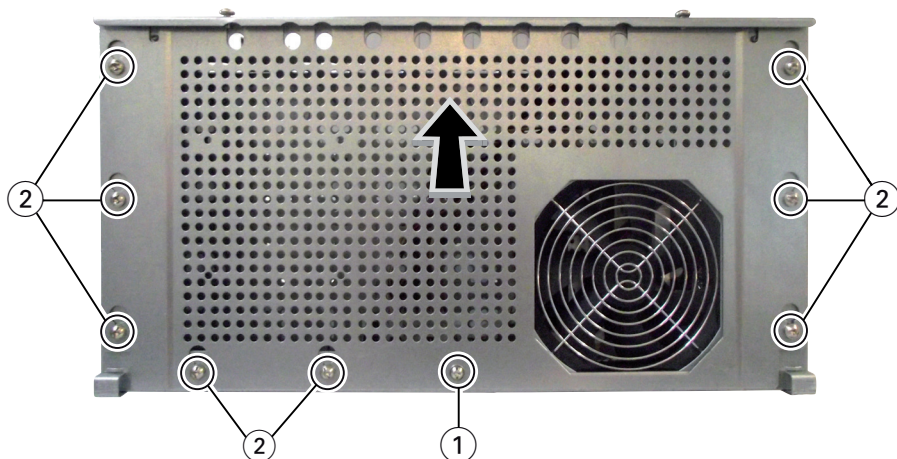

Fig. 6
- Position the breakthroughs in the base plate above the fastening screws (2) (fig. 6).
- Push the base plate in direction of the arrow and lock it with the locking screw (1).
- Tighten the fastening screws (2).